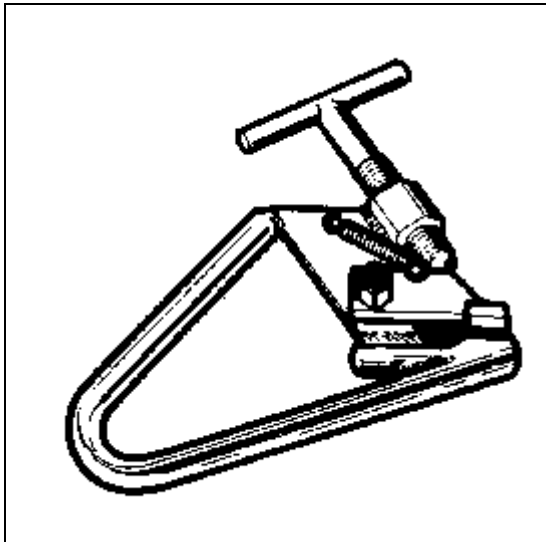

Fig.6
**#14009472 Mounting clamp (Fig.6).**